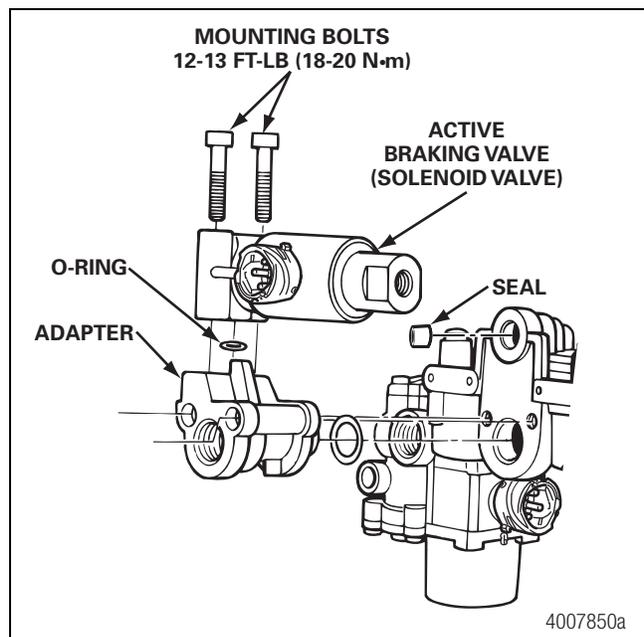

Figure 4.10
2. Use the two new M8 Allen-head bolts to attach the solenoid valve to the adapter piece. Use a 6 mm Allen-head tool to tighten to 13-15 lb-ft (18-20 N•m). Figure 4.10. **ⓘ**